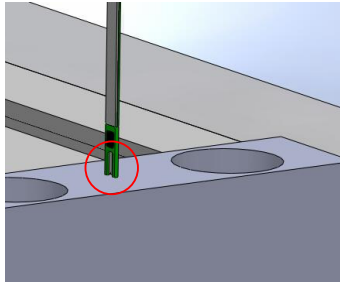

Figure 27: The tip of the probe is touching the reference surface
- 17) After you have positioned the probe so that it touches the referent surface of the magnet (Figure 27), select the “Start position and Calibration” tab.